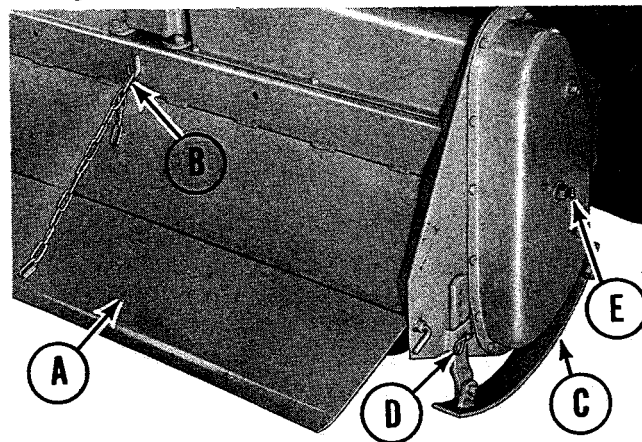
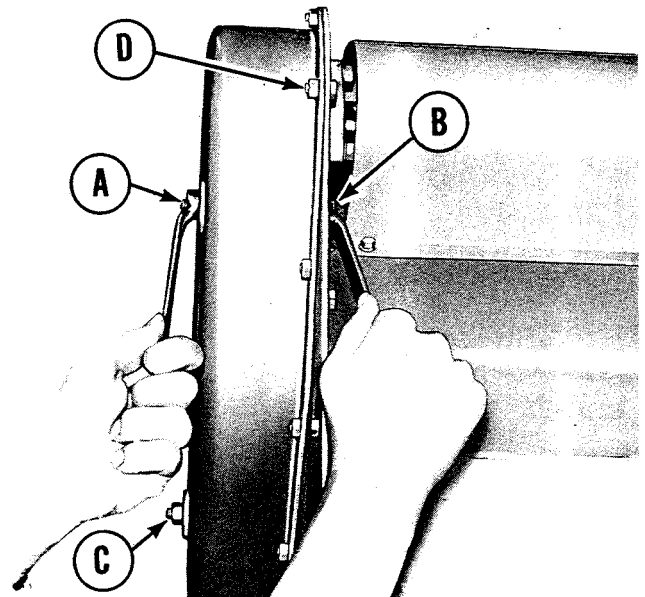
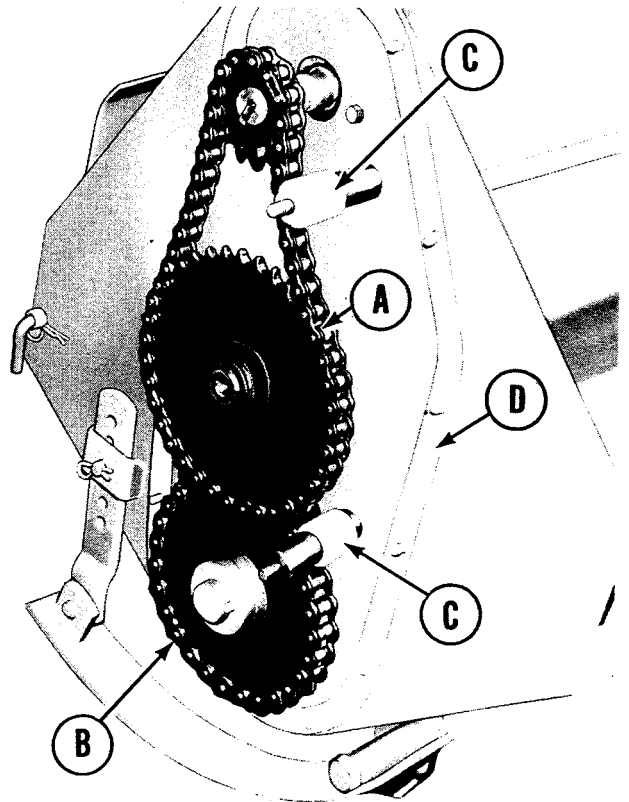

Figure 6. Dust shield and skid shoe adjustment seen from rear of tiller.
Figure 9. Adjusting drive chain tension.
Figure 12. Drive chains as seen with chain cover removed
See figure 6. For most tilling conditions, to give the smoothest tilling job and prevent rocks from being thrown, the rear of the dust shield (A) should rest on the ground when the tiller is operating in the ground. The height of the dust shield can be adjusted by placing various chain links over the hook (figure 6, item B). If finer adjustment is desired than the chain links provide, the chain can be twisted a few turns to give the height desired.
The Simplicity tiller has adjustable skid shoes which can be set to give various tilling depths. See figure 6. The two skid shoes (C) on either side of the tiller can be held in any of six positions by placing the pin and spring clip at (D) in various adjustment holes. Raise the skid shoes to provide greater tilling depth; lower them to give less depth. Both skid shoes should be positioned in the same adjustment hole to give uniform tilling depth. Other operating settings which influence tilling depth are covered under Controlling Tilling Depth and Clod Size.
Ground speed and number of passes over the ground with the tiller can be varied to control clod size (soil texture). To reduce clod size or make a finer seedbed, reduce the tractor ground speed. Making additional passes with the tiller will also help reduce clod size. The tiller dust shield (figure 6, item A) must be in the lowered position so its lower edge rests on the ground surface to give a fine textured seedbed without large clods. If the clods are smaller than desired, increase ground speed and reduce the number of passes.
1. See figure 9. Using two box end wrenches loosen slightly the nut at (A) with one while holding the capscrew (B) with the other.
2. See figure 9. With the two box end wrenches positioned as shown over the nut and capscrew, push rearward on both wrenches to remove slack from the chain. While pushing rearward on the wrenches, turn the wrench on nut (A) clockwise until nut (A) is tightened securely.
4. If the adjusting slots (behind A, B, and C in figure 9) will not allow the chains to be tightened, the chains should be replaced. See Chain Replacement on page 6.
1	Chain Drive Cover (figure 6, item E)
The tiller drive chains should be replaced when the bolt slots (figure 9, items A, B and C) no longer allow further tightening of the chain. To replace the chains, proceed as follows:
1. See figure 9. Remove the nuts at (A) and (C) and the nuts (D) which hold the chain cover to the tiller frame. Also remove nut (E) shown in figure 6.
2. See figure 12. Remove the chains (A) and (B) noting that they are a different size so the new chains can be installed correctly.
4. Inspect the rollers (C) and gasket (D). Replace with new if they are worn or damaged.
5. Install new drive chains (A) and (B).
7. See figure 9. Replace the chain cover and tighten all nuts (D) securely.
8. Install the washer and nuts at (A) and (C) and tighten finger tight.
9. See figure 6. Install nut (E) and tighten securely.